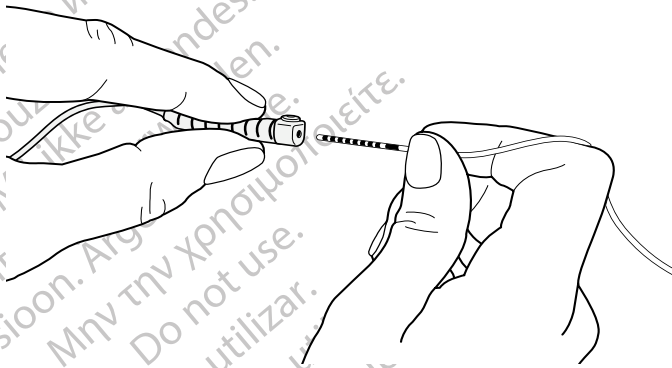

Figure 30. Grip the DBS Lead and the Center of the Lead Extension Connector Prior to Insertion
2. Grip the DBS Lead next to the Retention Sleeve. Grip the Extension in the center of the Extension Connector (Figure 30).